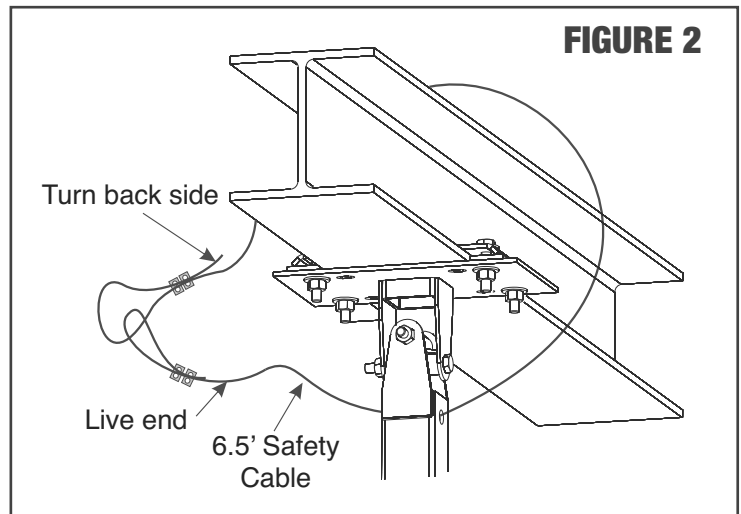

FIGURE 2
2. Insert the bolts, washers and tighten the nylocks (**Figure 2**).
3. Position the safety cable as per **Figure 2**, loop at both ends.